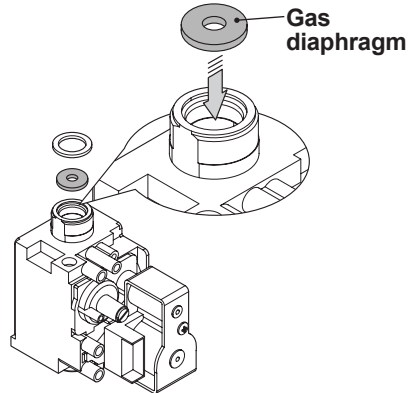

Figure 8.2
- Convert the type of gas by correctly replacing the gas diaphragm (Figure 8.2), referring to section "Technical data M270V.2025 SM" on page 22.